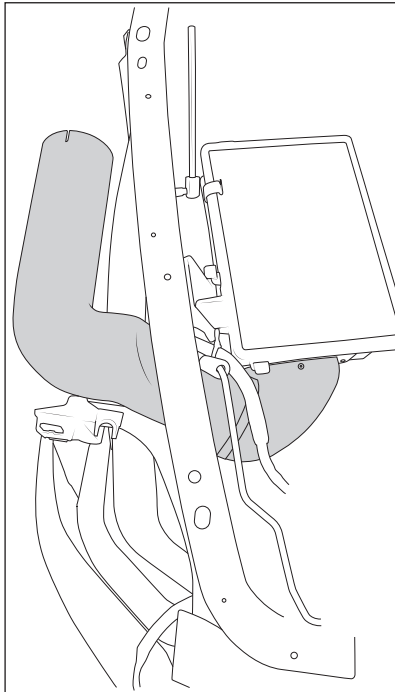

Figure 19
11. Install the extension tube as shown (Fig. 19). Leave loose at this time.